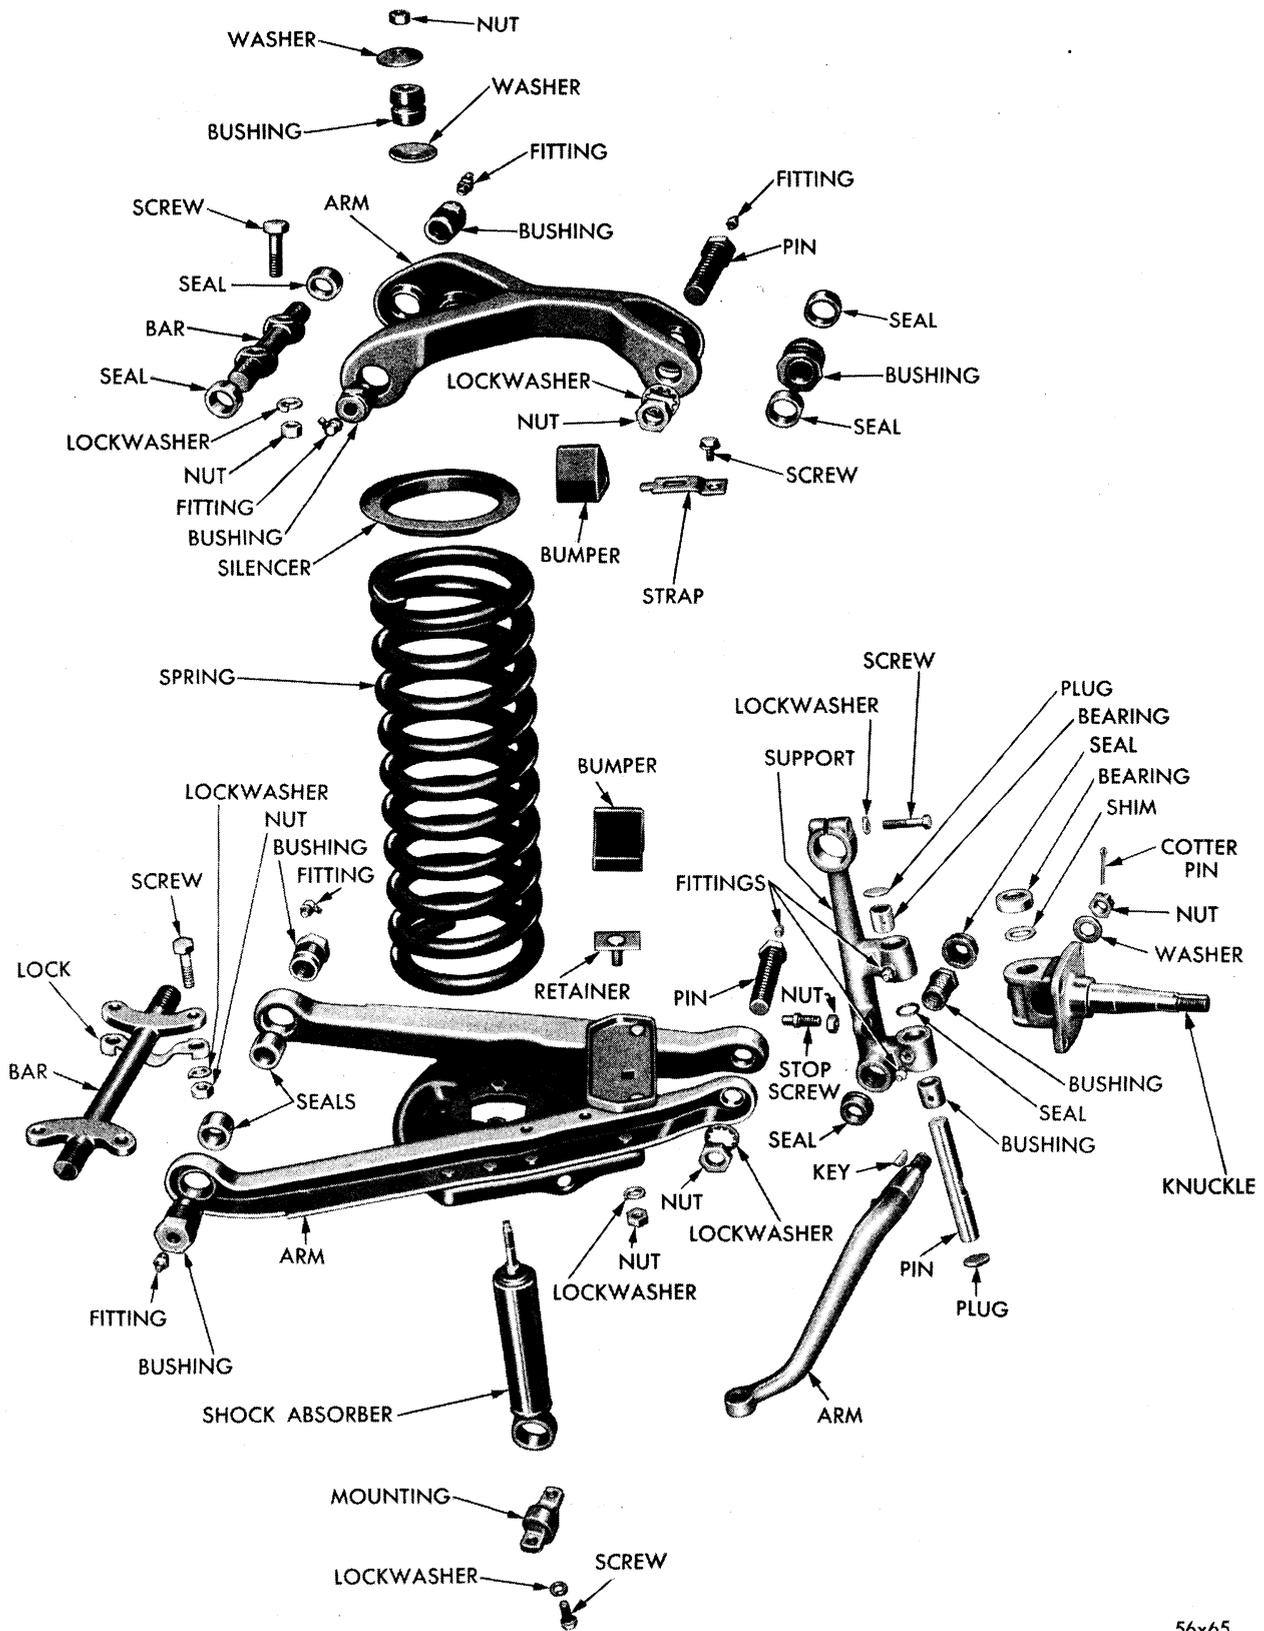
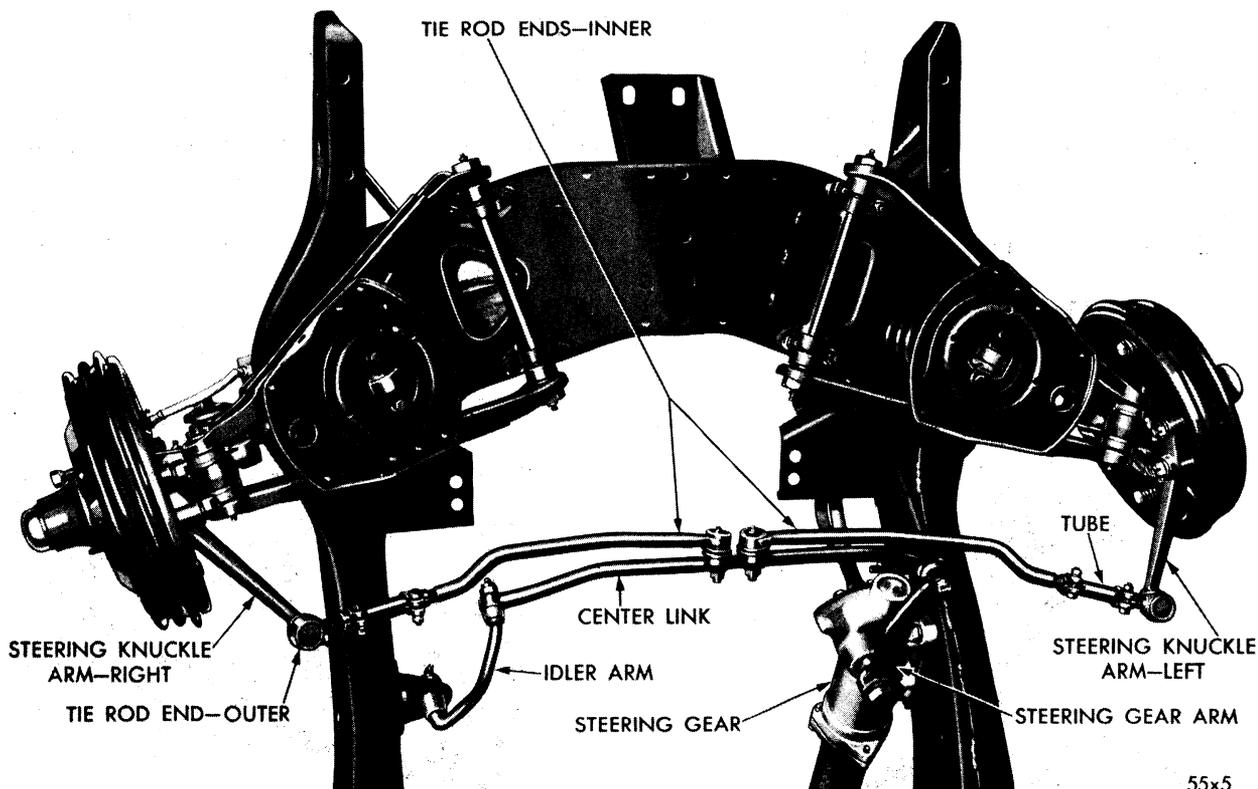

Fig. 1—Front Wheel Suspension
Fig. 6—Lower Control Arm Installed
Figure 1 shows the disassembled view of the front suspension system when replacing suspension parts.
2. REMOVAL AND DISASSEMBLY OF UPPER CONTROL ARM (REFER TO FIG. 1 AND 4)
5. REMOVAL OF LOWER CONTROL ARM AND FRONT COIL SPRING (FIG. 6)
Remove dirt or grease around the shock absorber upper mounting area. Remove shock absorber piston rod attaching nut. Raise front of car and place supports under frame side members behind suspension unit. Remove front wheel and hub and drum assembly. Remove lower attaching nuts and remove shock absorber. Remove sway eliminator retainer clamp. Place jack under center of lower control arm spring seat, as shown in Figure 7. Loosen lower support to control arm pin nut. (See Fig. 1). Raise jack to relieve pressure on lower control arm. Remove knuckle support arm pin and seals. Lower jack slowly and remove coil spring, as shown in Figure 8. Remove pivot bar to frame attaching bolts, as shown in Figure 6, and remove lower support arm.